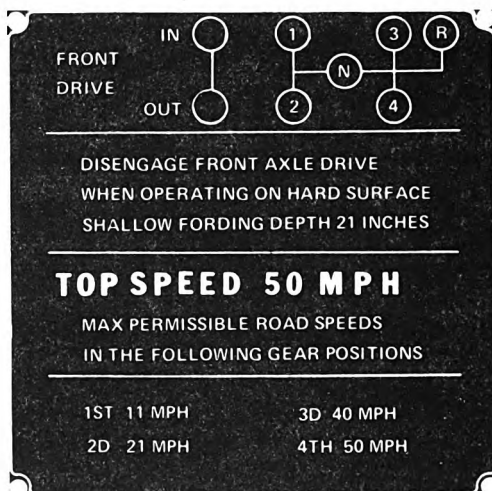

Figure 1. M151 Series.
Operation of the transmission and transfer case. (See figures 1, 2, and 3.)
1. Shifting the M151 from 2-wheel drive. If the vehicle is moving, slow to a speed not exceeding 4 to 5 mph, depress the clutch, and shift the front axle drive lever to the forward (IN) position. The M151 automatically goes into low range upon engagement of the front axle drive (figure 1).
2. Shifting the M151 from 4-wheel to 2-wheel drive. If the vehicle is moving, slow to a speed not exceeding 4 to 5 mph, depress the clutch, and shift the front axle lever to the rear (OUT) position (figure 1).